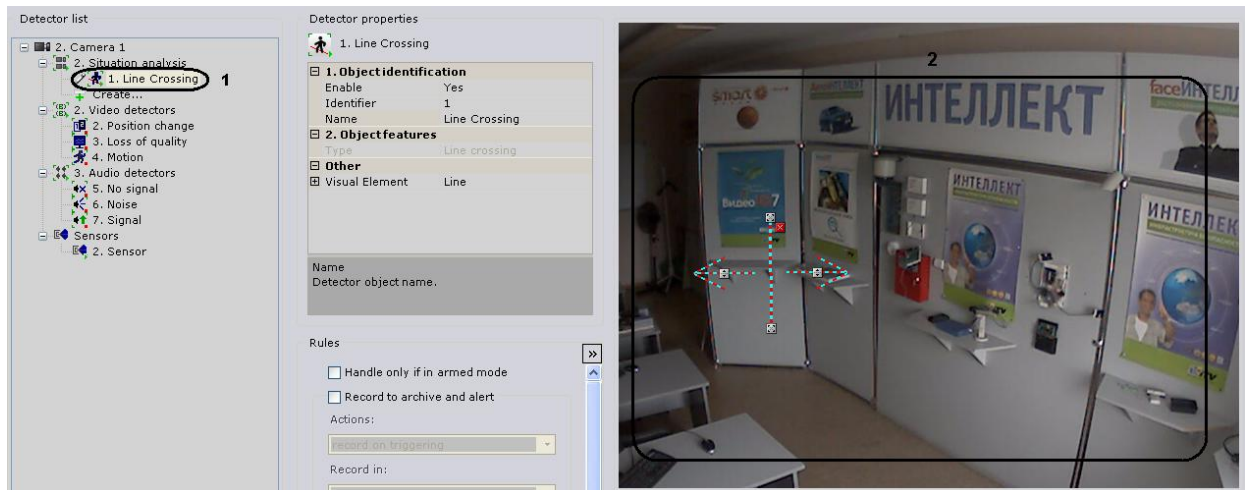

Fig. 6.5—8 Setting a line
1. In the list of detectors, highlight a **Line crossing** object (Fig. 6.5—8, 1).
2. In the viewing tile (see Fig. 6.5—8, 2), set the end points of a line which, when something crosses it, will trigger the line crossing detector (Table 6.5—4).
*NOTE. When the line is being constructed, the end points are connected by a two-color dotted line. The direction of the object's motion across the line is indicated by dotted arrows (see Fig. 6.5—8, 2).*